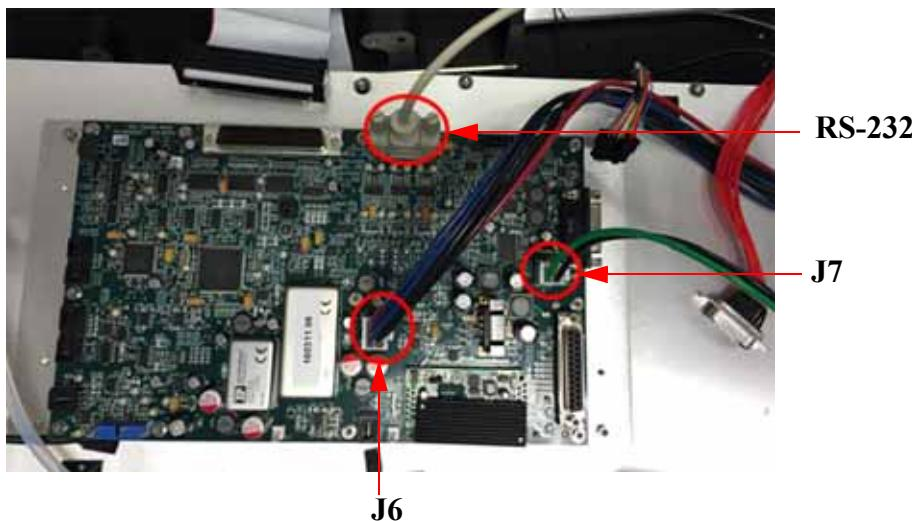

Figure 5.4-4. J6, J7 and RS-232
14. Only connect J6, J7 and a standard R-S232 serial cable. Connect the RS-232 cable from the board to the service engineer's laptop. See Figure 5.4-4 "J6, J7 and RS-232".